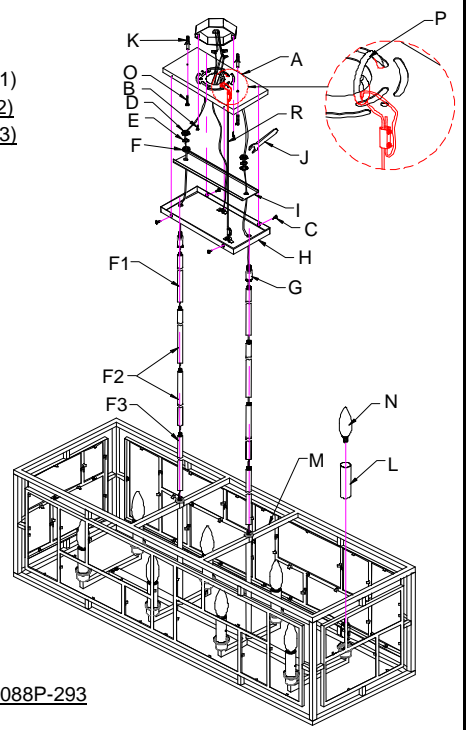

Fig. 2
CONNECTING THE WIRES (Fig. 1, Fig. 2)
- At this point, connect the electrical wires as shown in Fig. 2, making sure that all wire connectors are secured. If your outlet box has a ground wire (green or bare copper), connect the fixture's ground wire to it. Otherwise, connect the fixture's ground wire directly to the mounting plate using the green screw provided. After wires are connected, tuck them carefully inside the junction box.